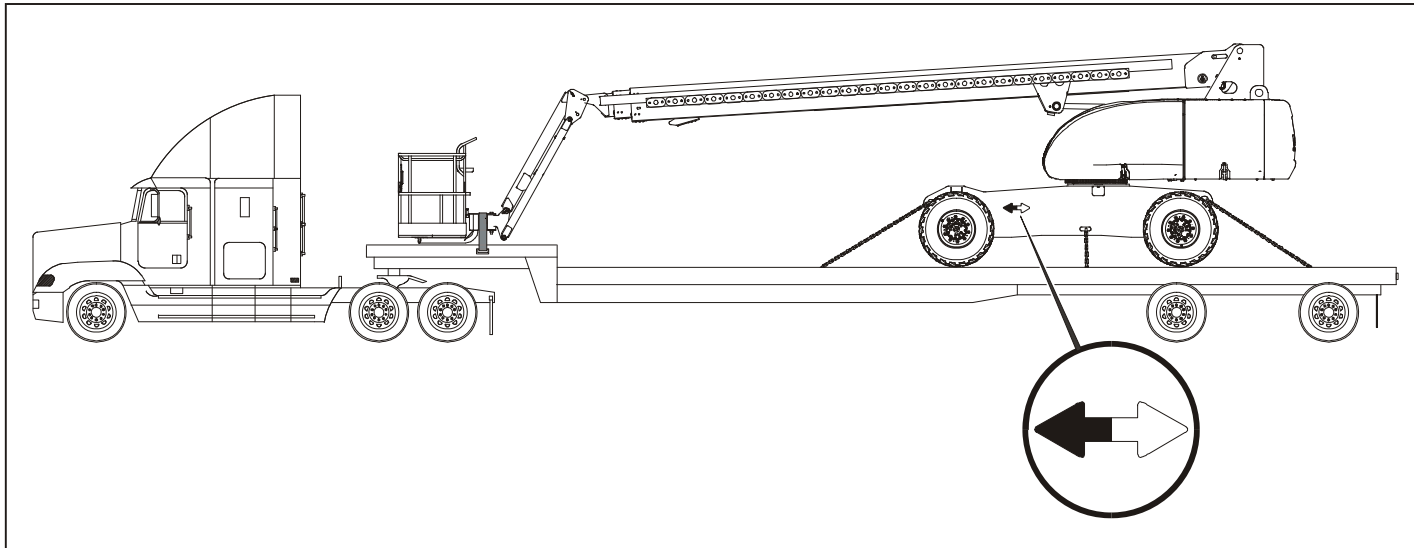

Figure 4-5. Typical 800S/860SJ Transport
- c. Drive it onto the trailer with the boom and platform positioned towards the truck. Refer to Figure 4-5., Typical 800S/860SJ Transport.